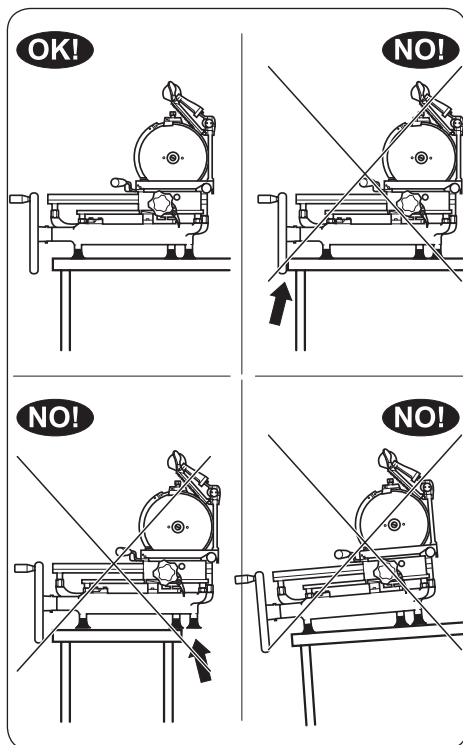

Fig. 5 - Positioning the slicer
Positioning the slicer (fig. 5)
- If not using the optional stand, carefully lift the slicer and position on a level surface (fig. 5) that is dry and capable of supporting the weight of both the slicer and the product to be sliced (see "Technical specifications").